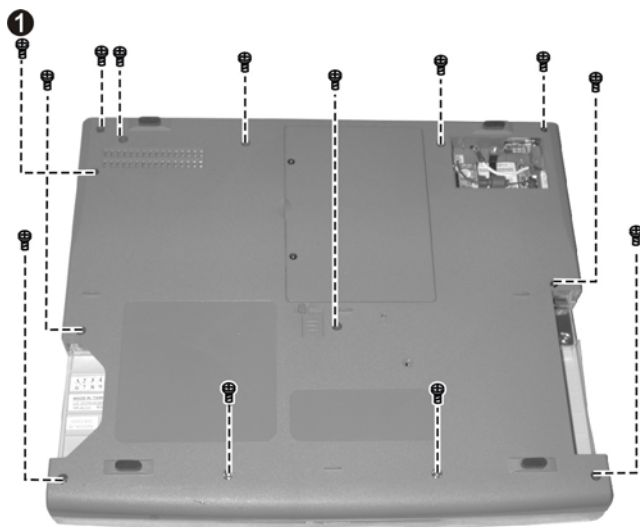

Figure 2-11
5. Remove one screw locking the CD-ROM (❶), and then the other twelve screws locking the base unit frame. (figure 2-11) Now you can lift the base unit frame up.